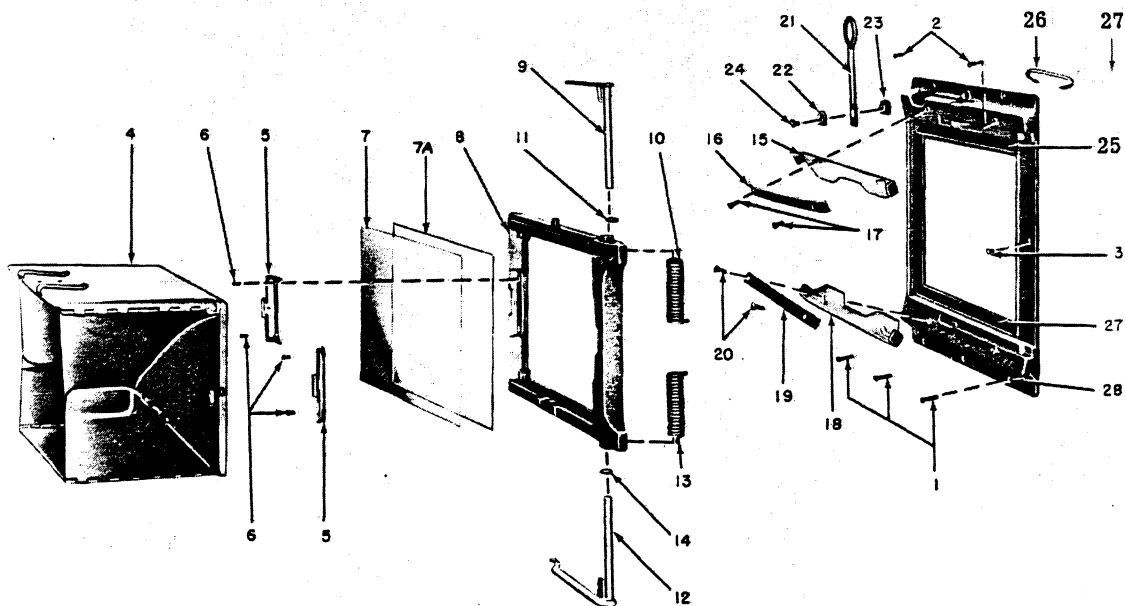

Figure 4. 4x5 Graflok Camera Back
3. Check the focusing frame assembly (12, figure 4) and the back (17) on a machined surface plate. If these parts do not lie absolutely flat they must be straightened.
1. Remove the focusing panel frame assembly (8, figure 4) by simultaneously pressing the knurled finger pads of the upper and lower arm assembly (9 and 12) and sliding the frame to the right, free of the arm hooks.
2. Remove the long self-tapping screws at the bottom (1), short self-tapping screws at the top (2) and one wood screw (3) at the right side, if used.
3. Remove the hood assembly (4) by pressing outward on the tab of the hood retainer (5).
4. Remove the focusing screen (7) and the two hood assembly retainers (5).
2. The slidelocks should be lubricated by wiping both sides lightly with a block of paraffin wax, Federal Specification VV-P-121a. Position the slidelocks (15 and 18, figure 4) so that the slots angle to the left and toward the center. Reassemble the slidelocks, the spring (16 or 19) and the special slidelock screw (17 or 20) so that the screw shoulder fits within the slot of the slidelock.
Key to Figure 4. 4 x5 Graflok Camera Back